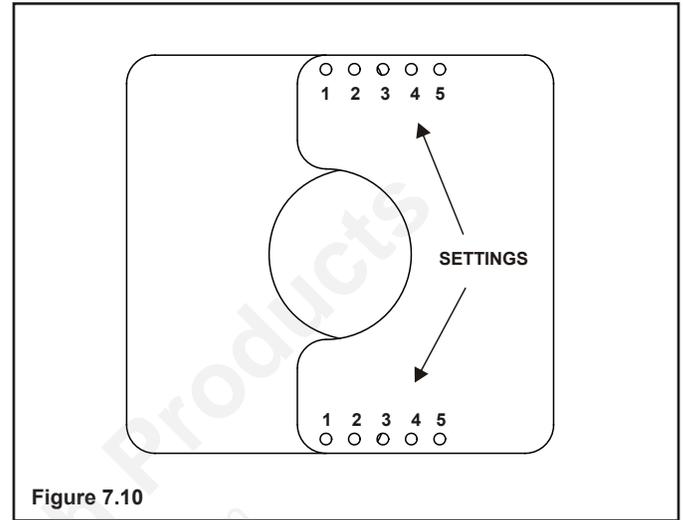

Figure 7.10
- Match the amount of vertical you have in the system with the chart to find the appropriate position to set the exhaust restrictor (see Figure 7.10).